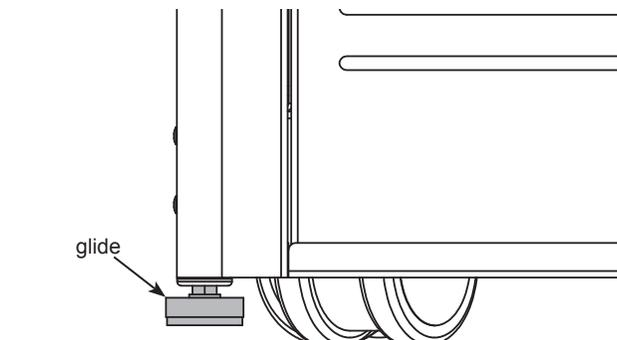

Figure 1
- For mobile use, thread the glides all the way in. **Figure 1.**